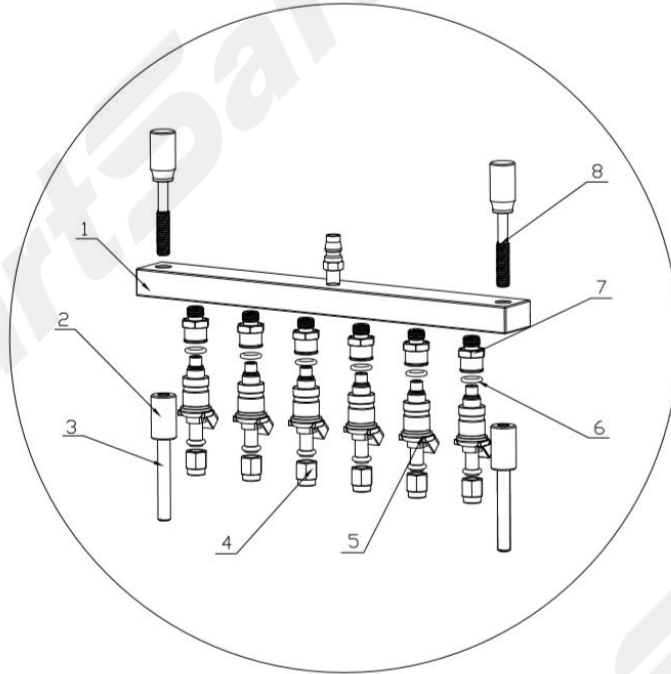

Figure 5.5
- 4) Adjust the screws to fix the fuel distributor and injector assembly in the oil filler hole of the upper cover according to the height of injector and tighten the compression screws on both sides evenly, as shown in Figure 5.5;